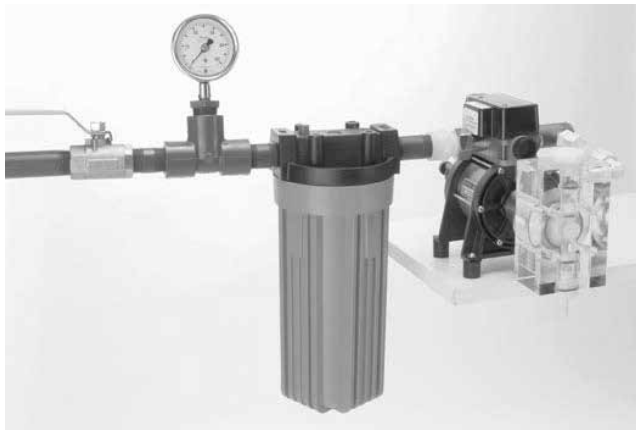

Figure 2
2. If deionized water is not used, connect a 10 micron water filter (available as an option) to the inlet fitting of the proportioner (Figure 2). If the inlet water pressure exceeds 60 psi (4.2 kg/cm²), a regulator must be installed in the inlet water line.